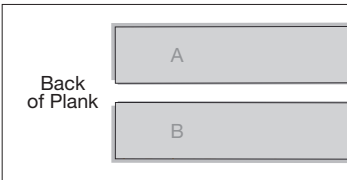

Figure 3
- Before building the starting triangles, separate the hardwood into two separate piles for “A” planks and “B” planks. Planks are stenciled on the back with the appropriate letter (Figure 3).